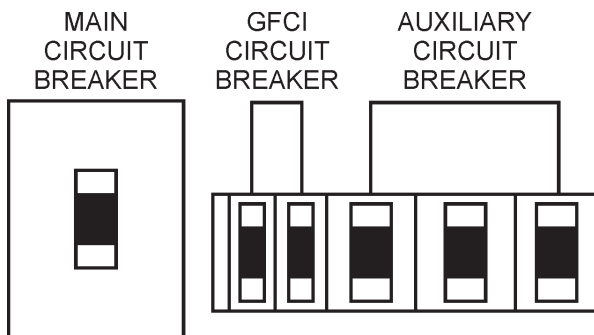

Figure 39. Main, Aux. and GFCI Circuit Breakers (OFF)
2. Place the **main**, **G.F.C.I.**, and **aux.** circuit breakers (Figure 39) in the **OFF** position prior to starting the engine.
1. Place both the **MAIN**, **GFCI** and **LOAD** circuit breakers as shown in Figure 39 to the **OFF** position.